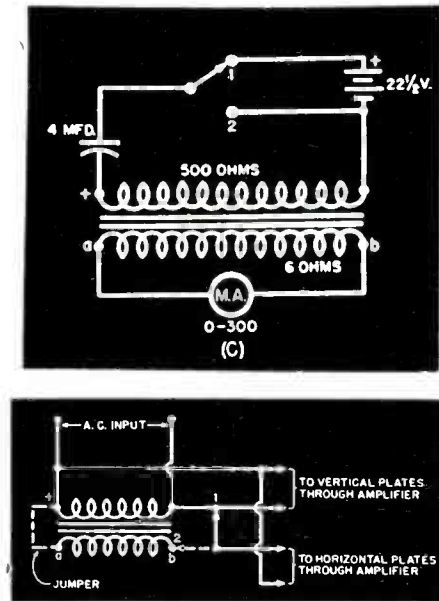

Fig. 4 Method of employing an oscilloscope when determining proper phase polarity.
This is a rapid and safe method, wherein very low exciting voltages may be used. The connections are shown in Fig. 4. The preliminary step is to use connection (1) to determine the "in phase" pattern. Since the same voltage is